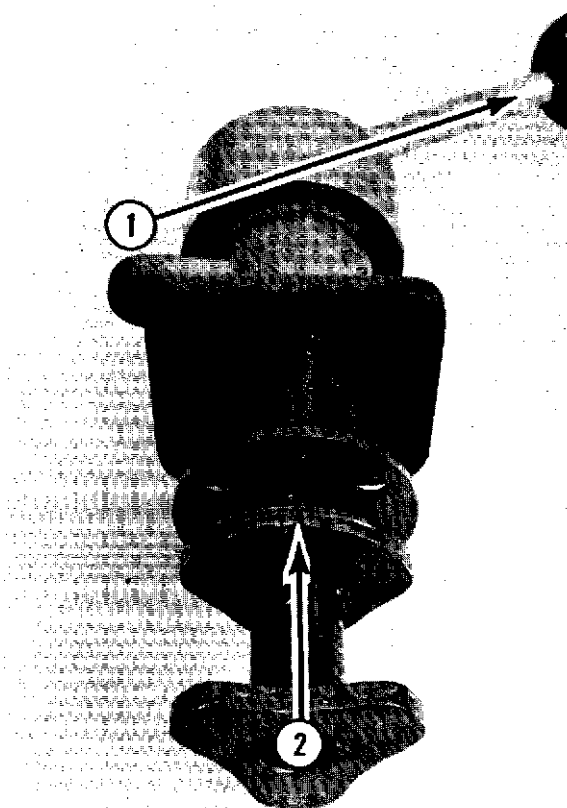

Fig. 11-18
- E. Install the cam as shown in Fig. 11-18 and secure with the rollpin. [Handle (1, Fig. 11-18) to the right and the high side of the cam (2, Fig. 11-18) facing up.]